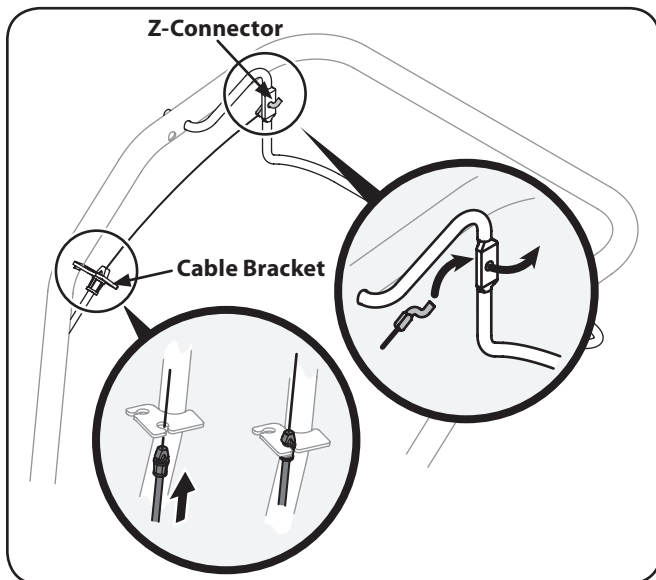

Figure 3-7
- Pull the forward clutch cable with the black end fitting up through the bottom hole of the cable bracket and push the cable connector up through the hole until the groove in the connector snaps into place. See Figure 3-7.
- Place the Z-connector into the hole in the forward clutch bail from the outside of the bail to the inside. See Figure 3-7.